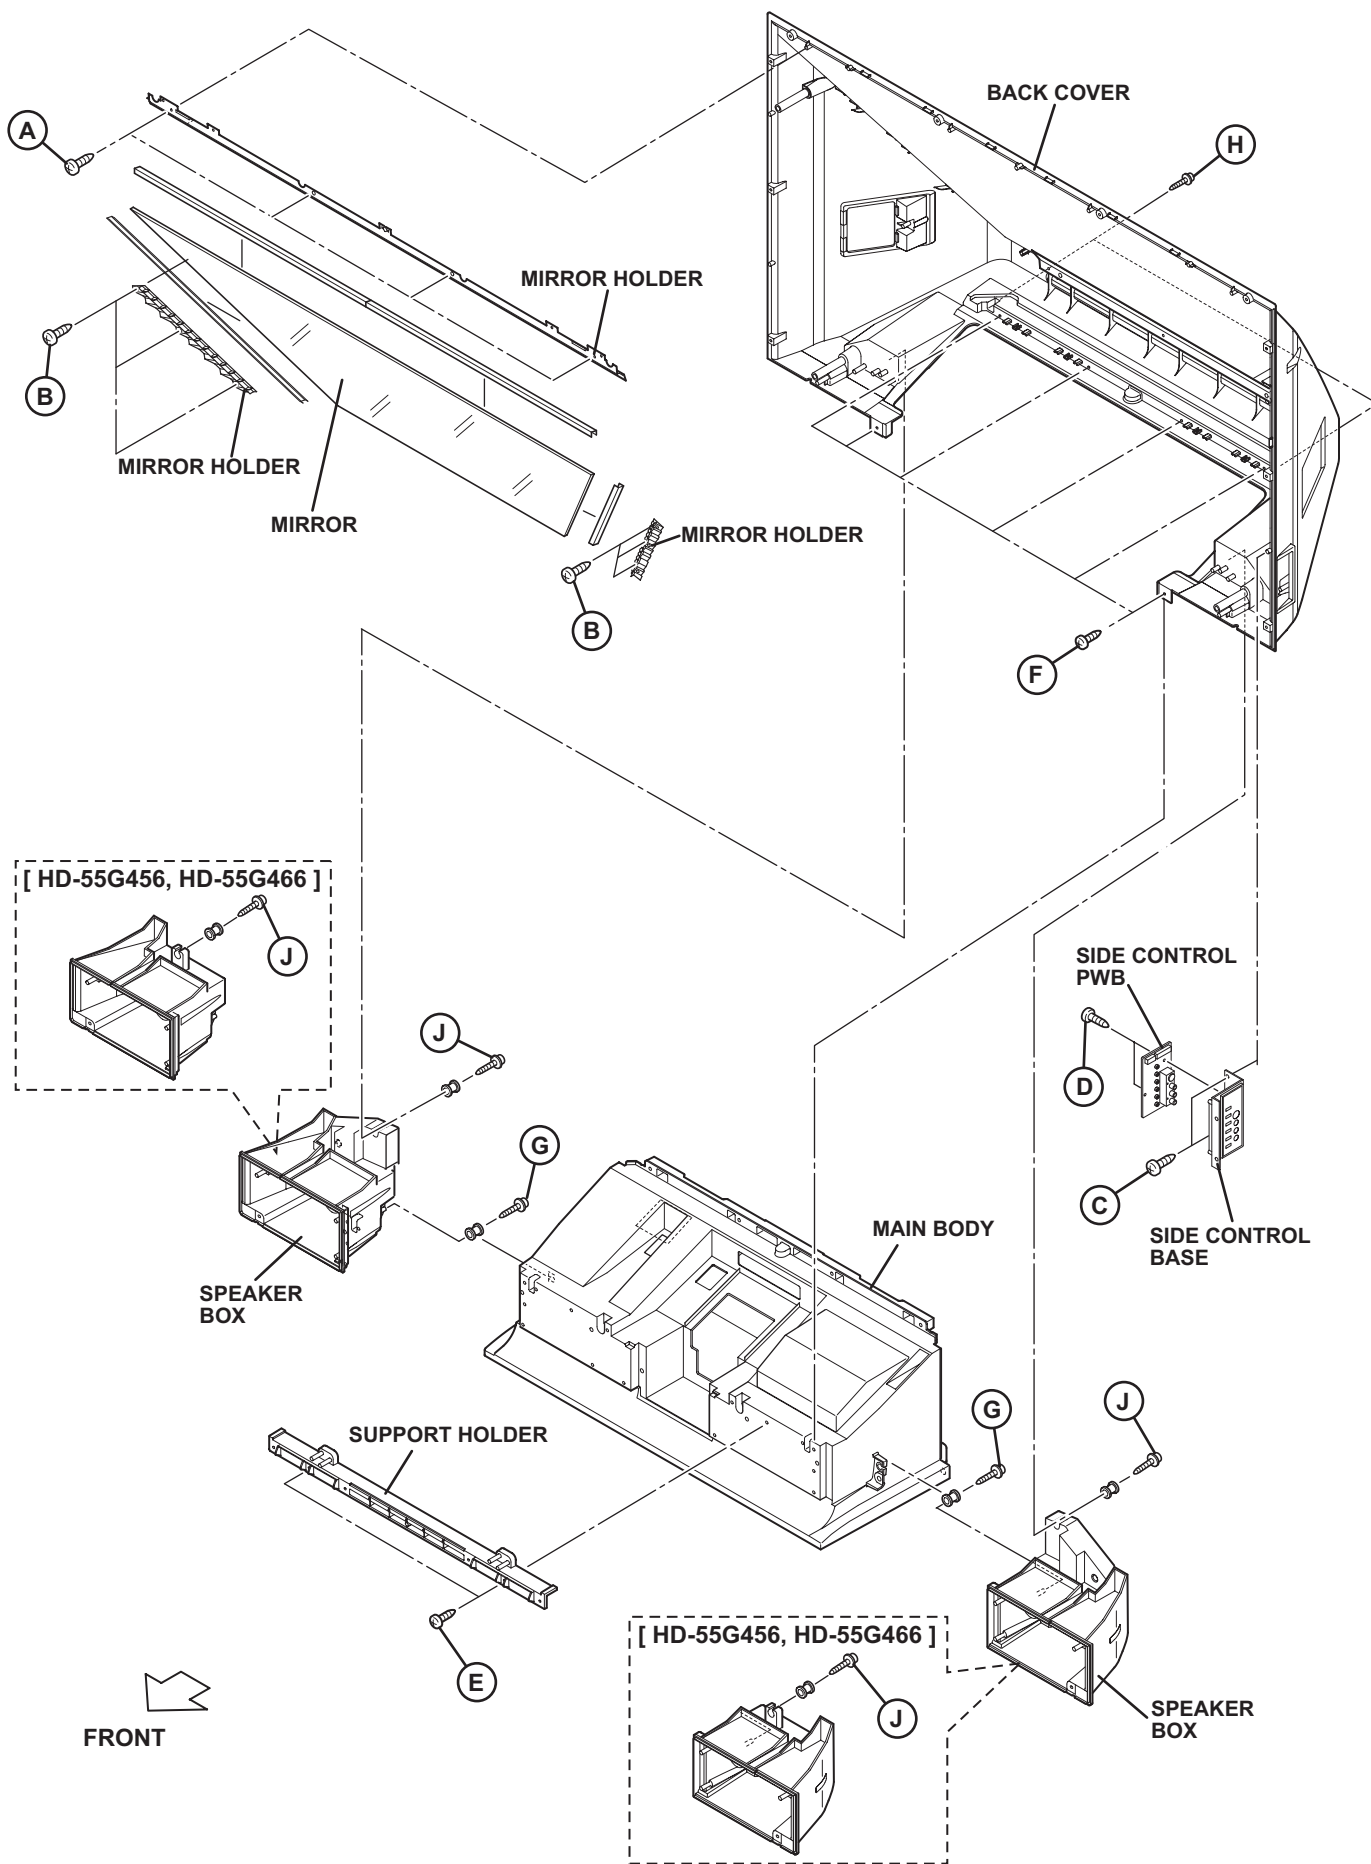

Fig.2
3.1.1.8 REMOVING THE MIRROR (Fig.2)
3.1.1.9 REMOVING THE SIDE CONTROL PWB (Fig.2)
3.1.1.10 REMOVING THE SUPPORT HOLDER (Fig.2)
- (1) Remove the 2 screws **[E]**.
- (2) Remove the SUPPORT HOLDER.
3.1.1.11 REMOVING THE BACK COVER (Fig.2)
3.1.1.12 REMOVING THE SPEAKER BOX (Fig.2)